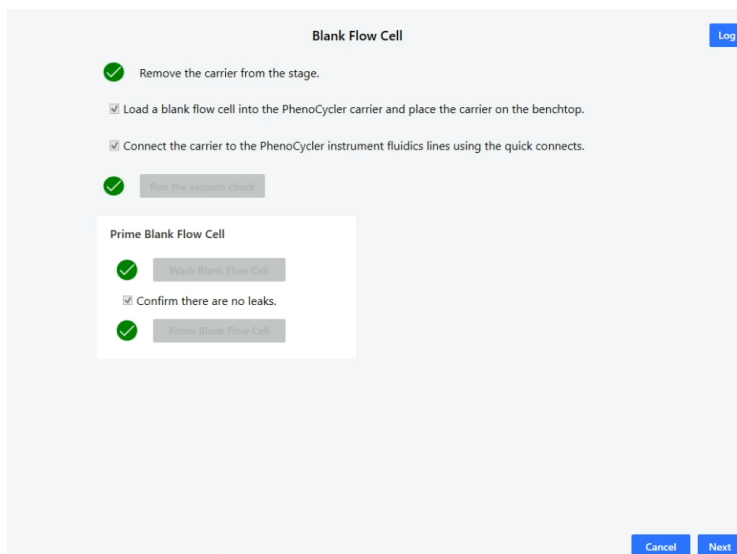

Figure 6.9. Dialog window, Blank Flow Cell complete.
8. The Blank Flow Cell dialog box is complete. (See Figure 6.9.)